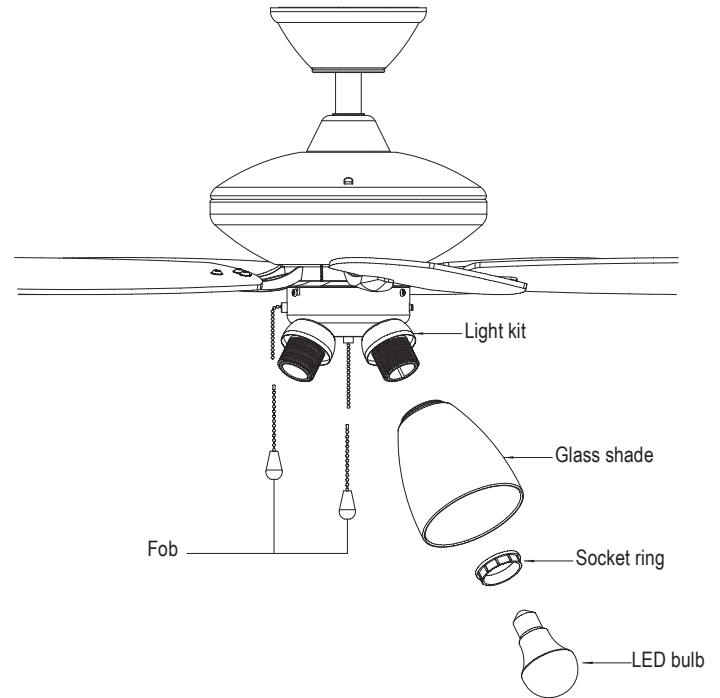

Fig. 16
Step 3. Attach fobs to pull chain extensions (Fig. 16).